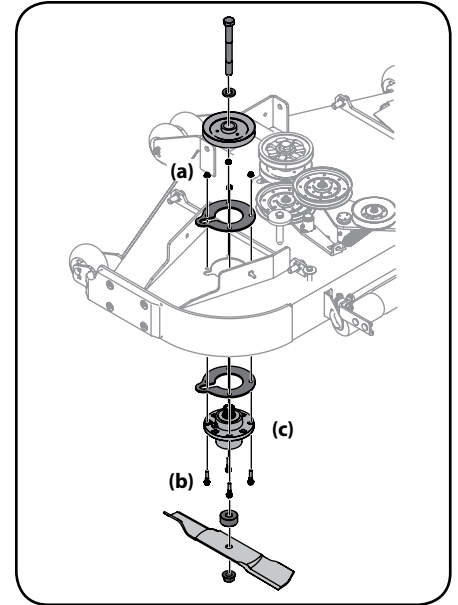

Figure 4-20
6. Using a 3/16" wrench or socket ratchet remove the flange lock nuts, and the hex flange bolts. Remove the spindle assembly. See Figure 4-20.